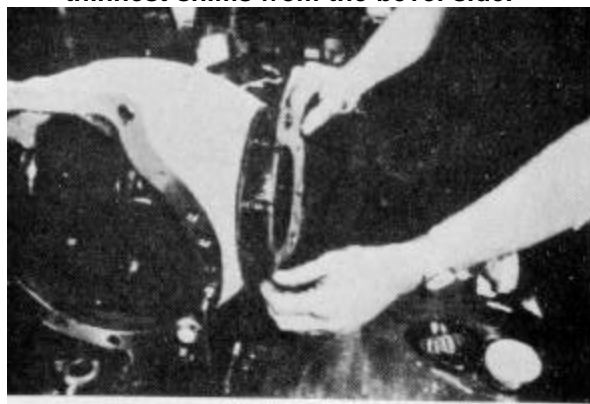

Figure 5-36
3. Remove the differential bearing pre-load adjusting shims from the eight studs. Measure and note the thickness of the shim pack (Fig. 5-36).